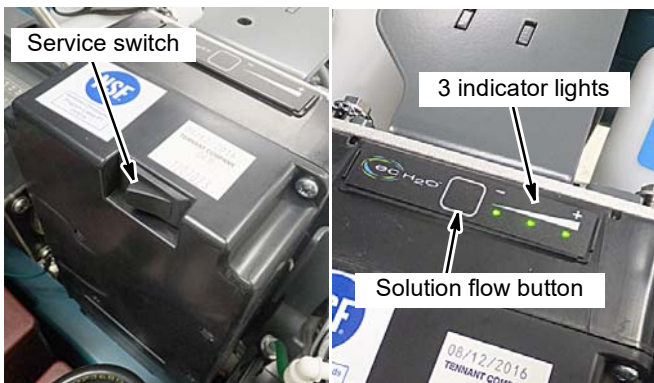

FIG. 145
- b. Press and hold the service switch, located on the ec-H2O module, for 10 seconds. After releasing service switch, the three solution flow indicator lights will begin to (ripple) move back and forth (Figure 145).
- c. Within 5 seconds after releasing the service switch, while the three indicator lights are moving back and forth, quickly press and release the solution flow button located on ec-H2O module (Figure 145). The three indicator lights will then blink three times to indicate timer has been reset. Repeat process if the three indicator lights do not blink three times.